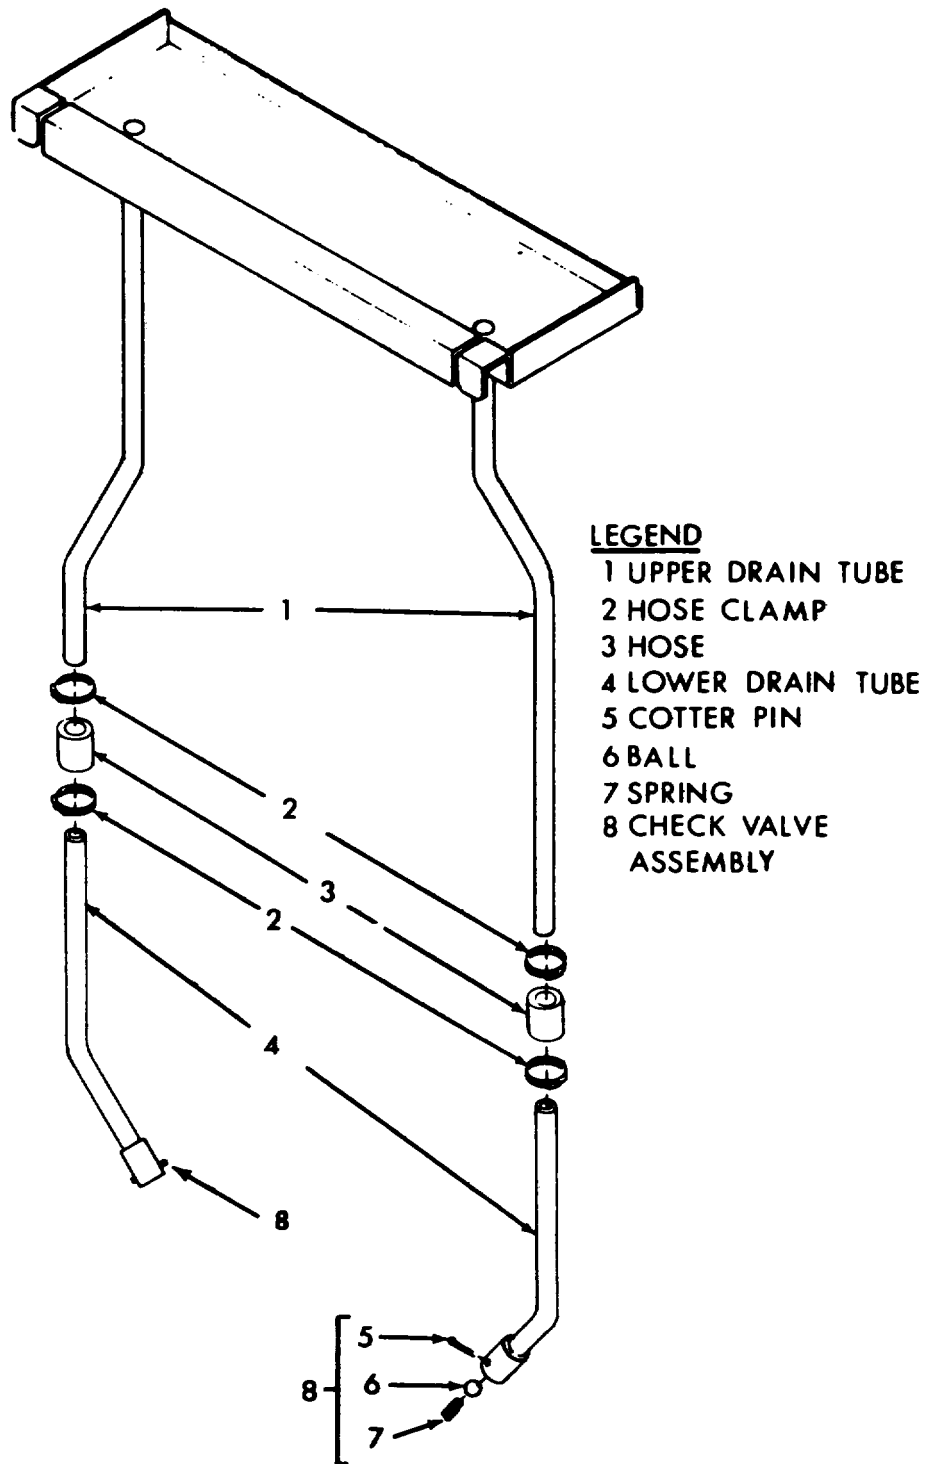

Figure 4-9. Condensate Drain
4.23. Condensate Drainage System (See figure 4-9).
- (1) Remove 18 screws and washers from the four edges of the fabric cover, and remove the fabric cover.
- (2) Remove 15 screws and packing washers from the top surface of the top panel, and five screws through the rear flange. Remove the top panel.
- (3) Both the evaporator discharge and intake grilles are removed by turning six cam-lock studs in their frames counter-clockwise to unlock them. Remove the grilles.
- (4) Remove the mist eliminator by pulling it straight up.
- (5) Remove the air filter by removing two screws from the retaining strip on the right-hand edge of the filter. Pull the right-hand edge of the filter outward and to the right to remove it.
- (6) Remove the lower panel by unscrewing the two panel fastener screws in the top edge, and pulling the panel upward and out.
d. Disassembly Disassemble the drain tube assembly in the following manner. (See figure 4-9).
(1) Loosen the two hose clamps (2) on the side to be disassembled. Slide them downward, off the hose.
(2) Bend the two retaining clips far enough to pull the tube away from the casing.
(3) Twist and pull the tube downward to remove it from the hose. If hose remains attached to the lower tube, remove from the air conditioner and twist or cut the hose from the tube.
(4) Place a container below the end of the upper drain tube (1) and repeat the water flow-test to make sure that the obstruction is not in the upper tube. If it is, remove it with a flexible wire with a small hook on the upper end.
(5) If the obstruction is in the lower drain tube, straighten the ends of the cotterpin, hold one hand over the lower end of the check valve assembly to prevent loss of the spring (7), and withdraw the cotterpin (5). Remove the ball (6), and push a flexible wire upward through the tube to dislodge the obstruction. Flush the tube thoroughly with hot running water.